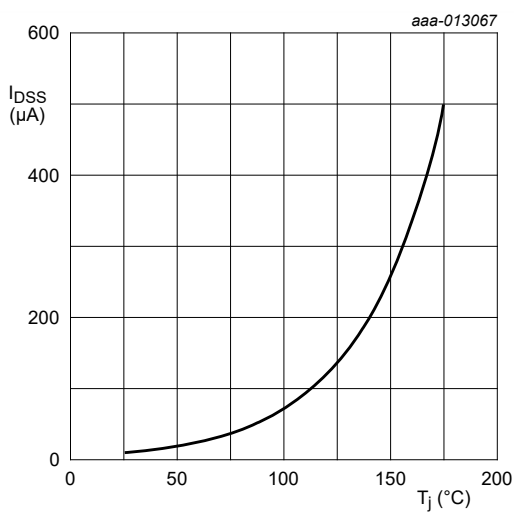
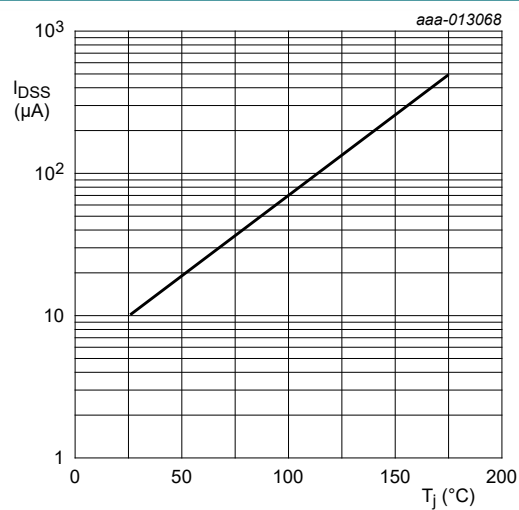
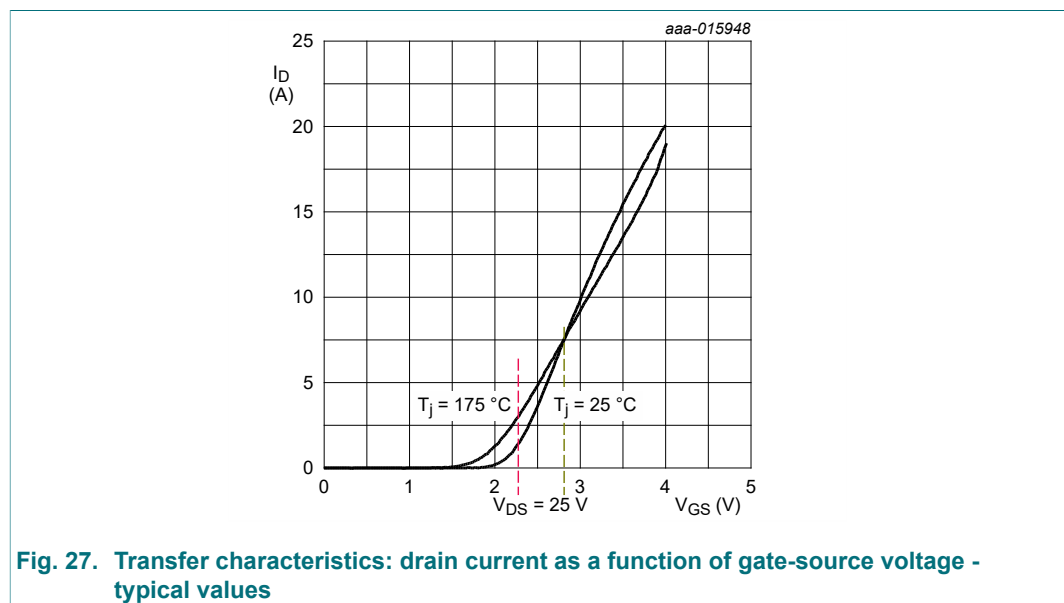

Fig. 22. I_{DSS} as a function of temperature, linear axes
Fig. 23. I_{DSS} as a function of temperature, log - linear axes
Fig. 27. Transfer characteristics: drain current as a function of gate-source voltage - typical values
A: The fundamental relationship between drain leakage current and temperature is exponential in form. The data sheet gives maximum values of I_{DSS} at $T_j = 25\text{ °C}$ and 175 °C . This example is specific to Nexperia Trench generation 2 technology but the same principles can be applied for other Nexperia technology. An exponential fit to these points provides the plot of Fig. 22. It is also in line with some testing which is performed during the development of new MOSFET technologies.
Fig. 23 is the same curve, plotted with a log scale for I_{DSS} to ease reading the value of $20\text{ }\mu\text{A}$ at 50 °C . These values are for a V_{DS} at the rated voltage. Reducing voltage reduces leakage current. Note that Fig. 22 and Fig. 23 are not in the device data sheets.
1. The graph depicted in Fig. 27 is typical. The BUK9275-55A MOSFET has a distribution of parameter values within the production tolerance limits. The graph is only intended to illustrate how I_D , V_{DS} and V_{GS} are related when the MOSFET is operating for a particular V_{DS} condition. $V_{GS(th)}$ has a significant influence on the characteristic of a particular device. Temperature is also a major factor. The limiting values and characteristics listed in the data sheet should be used for circuit design.
2. Junction temperature T_j strongly affects the I_D / V_{GS} characteristic. The graph in Fig. 27 is for $T_j = 25\text{ }^{\circ}\text{C}$ and $T_j = 175\text{ }^{\circ}\text{C}$. The same graph for the same part with $T_j = -55\text{ }^{\circ}\text{C}$, would be very different. The mode of operation preferred by the customer is with V_{GS} in the range 2.2 V to 3 V in the saturation region before full enhancement. In this mode, the MOSFET power dissipation is likely to be significant. As a result, the junction temperature may be high. Figure 22 demonstrates how I_D changes with T_j for a given V_{GS} value.
13.6. Q: Can Nexperia provide C_{GD} , C_{GS} and C_{DS} numerical values for $T_j = -55\text{ °C}$ and $T_j = +175\text{ °C}$ (at $V_{GS} = 0\text{ V}$, $V_{DS} = 16\text{ V}$)? If it is impossible to test, a theoretical one is also acceptable. A graph is provided in Figure 23, but it is for $T_j = +25\text{ °C}$.